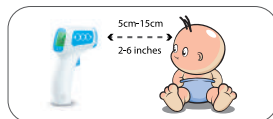

Figure 2: Measuring position and distance
- Aim thermometer at the middle of the forehead, above the eyebrows (see figure 2) or at the object surface you want to check